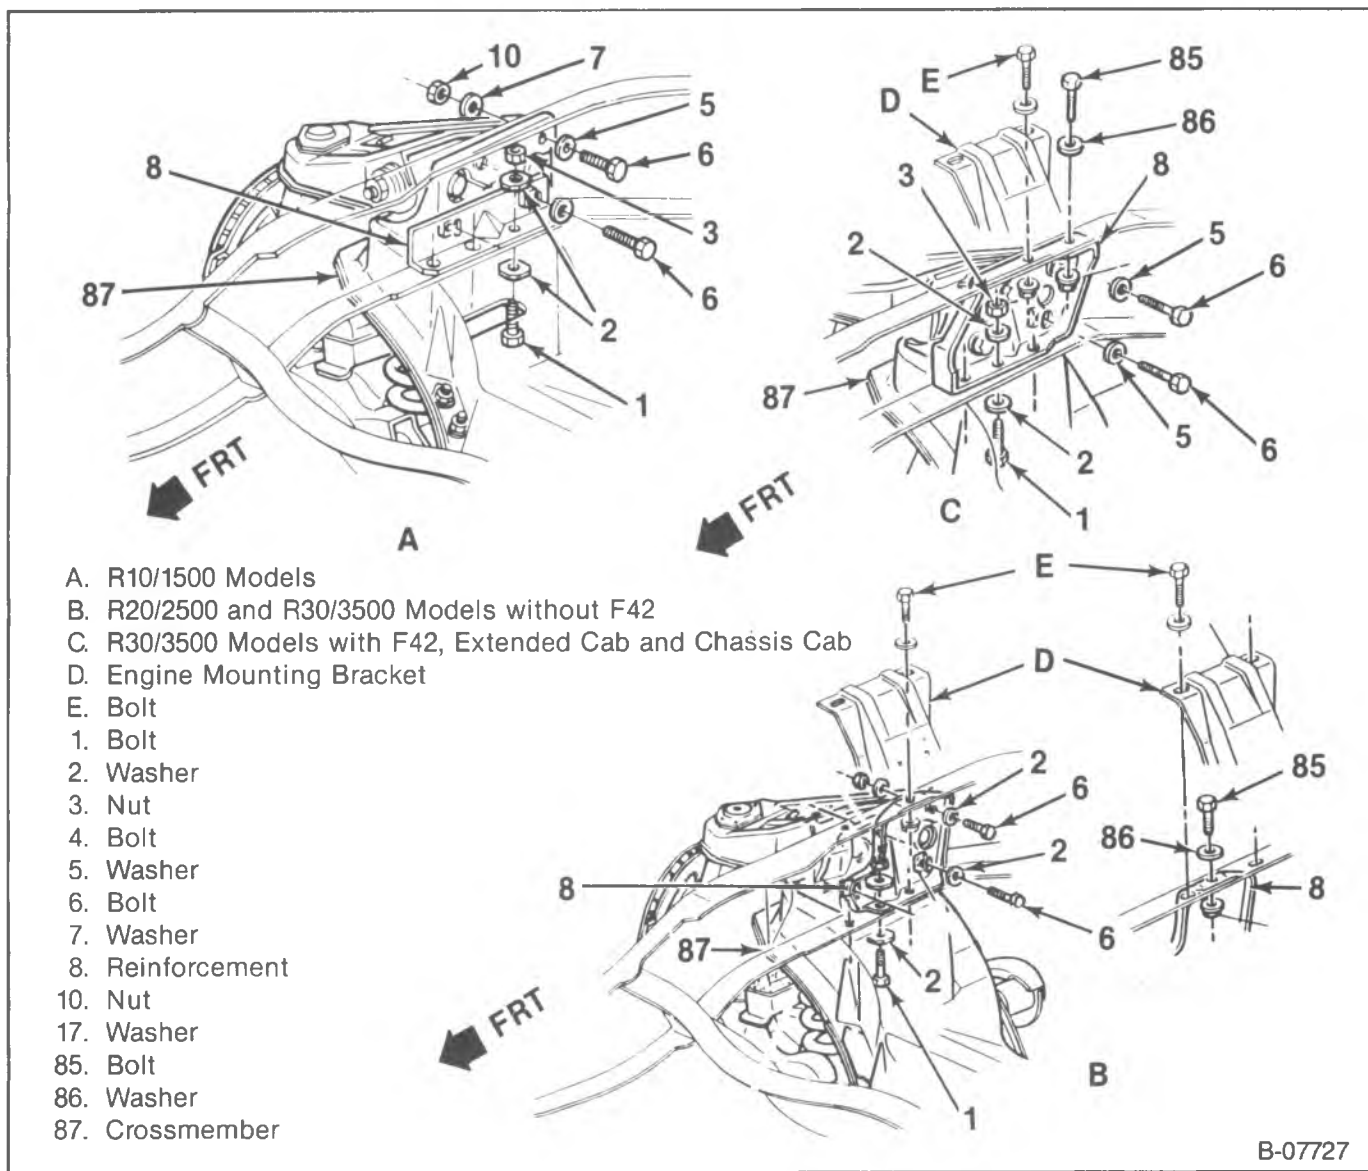

Figure 31—R Model Suspension Unit Attachment
- Suspension crossmember from the frame rail (figure 31).
- Upper control arm bracket to the frame side rail nuts (10), washer (7), and bolts (6).
- Suspension crossmember to the frame rail bolts (figure 31).
- Upper control arm (28) and the frame bracket bolts (6).
- Washers (7) and nuts (10). Do not tighten.